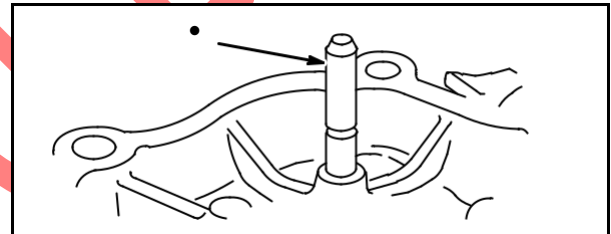

Fig. 16
2. Inspect the governor gear shaft (1) for wear or damage, Fig. 16.